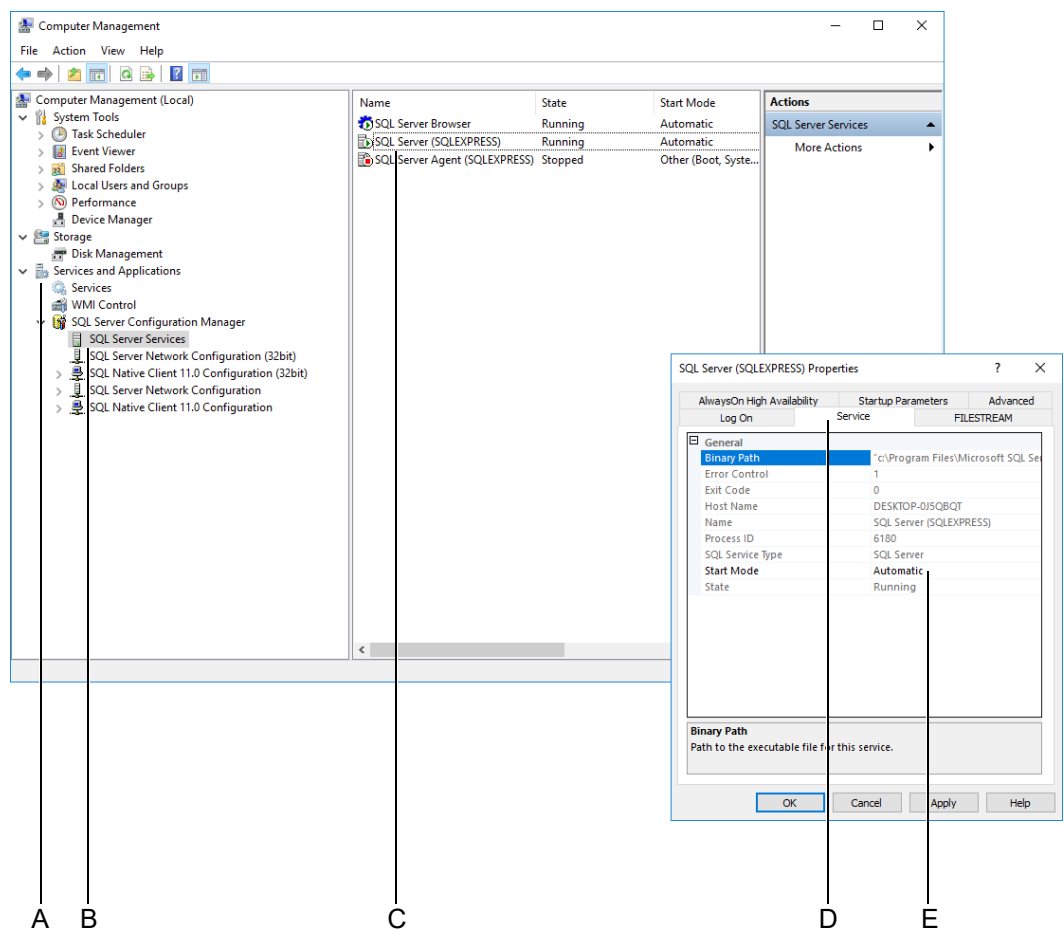

Fig. 4-26 Contact SQL (SQLEXPRESS) properties
- 2 Select **Services and Applications** (A) to view data.
- 3 Select SQL Server Configuration menu (B).
- 4 Select and click right mouse button on file **SQL Server(SQLEXPRESS)** (C) and select **Properties** from the content menu Fig. 4-26, 4-17.
- 5 Select **Automatic** (E) from **Start type:** drop down list of the **QL Server (SQLEXPRESS) Properties (Local Computer)** menu Fig. 4-26, 4-17.
- 6 Click **OK** to confirm entries Fig. 4-26, 4-17.